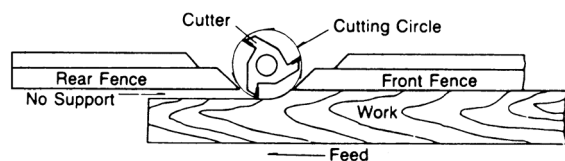

Figure 10
2. When the shaping operation removes the entire edge of the work (i.e. jointing or making a full bead), the shaped edge will not be supported by the rear fence when both fences are in line as shown in Figure 10. In this case, the work piece should be advanced to the position shown in Figure 10 and stopped.